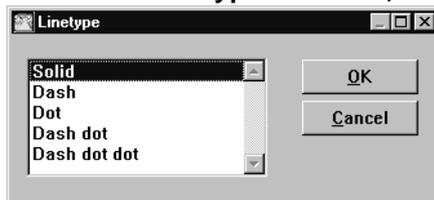

Fig. 31 The linetype dialogue box.
- 2 A list box, see Fig. 31, is shown. Select a linetype by double-clicking on the selected linetype in the list, or press **OK**.